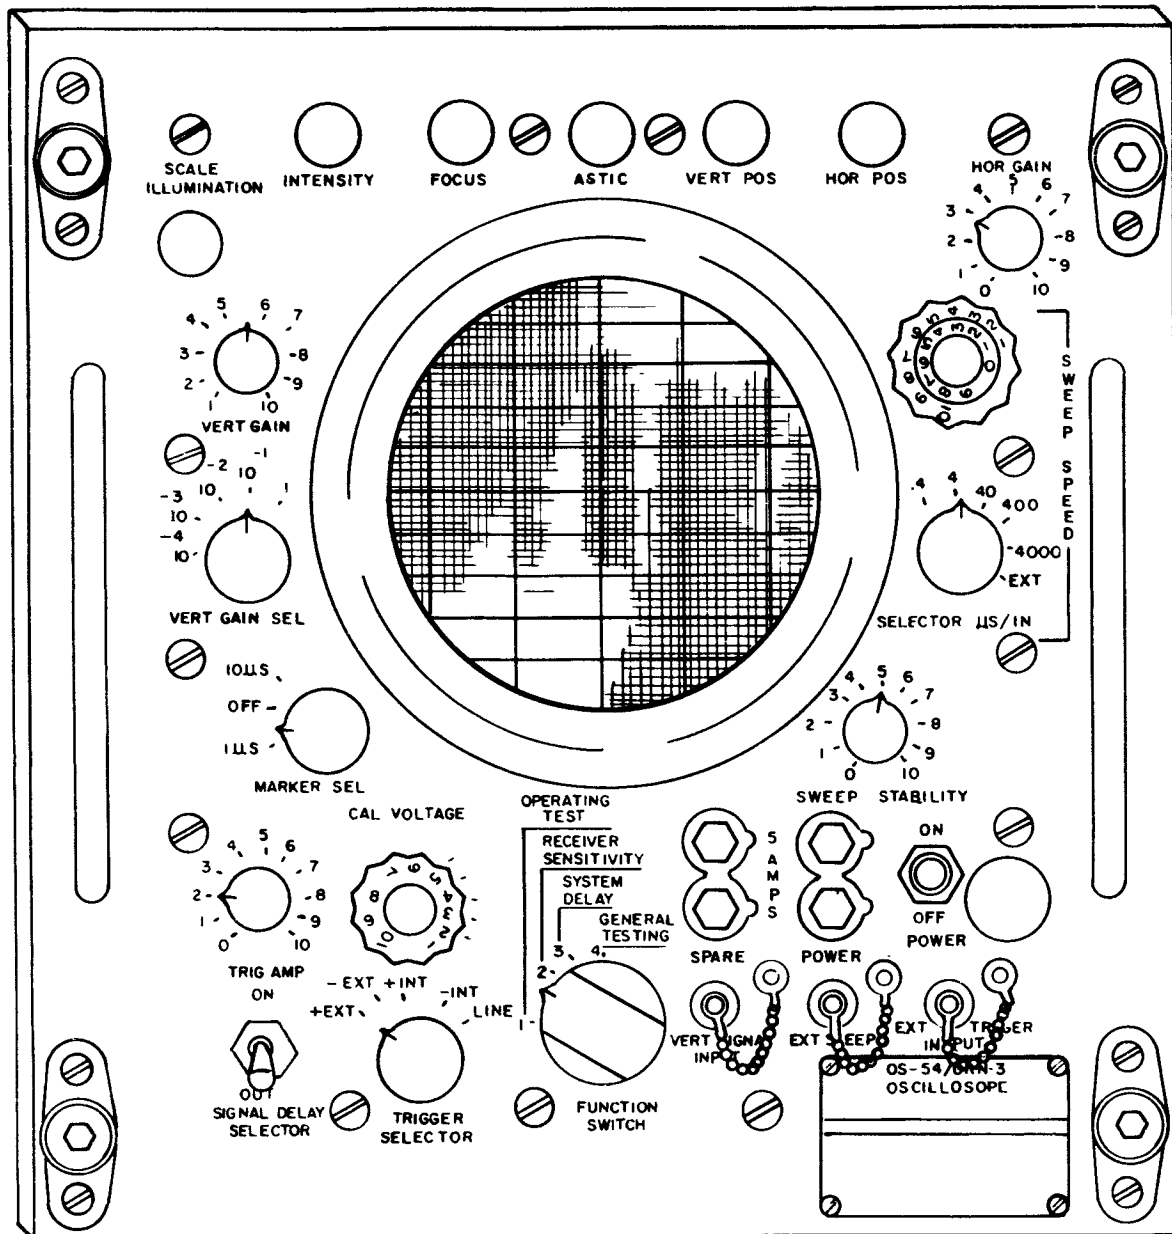
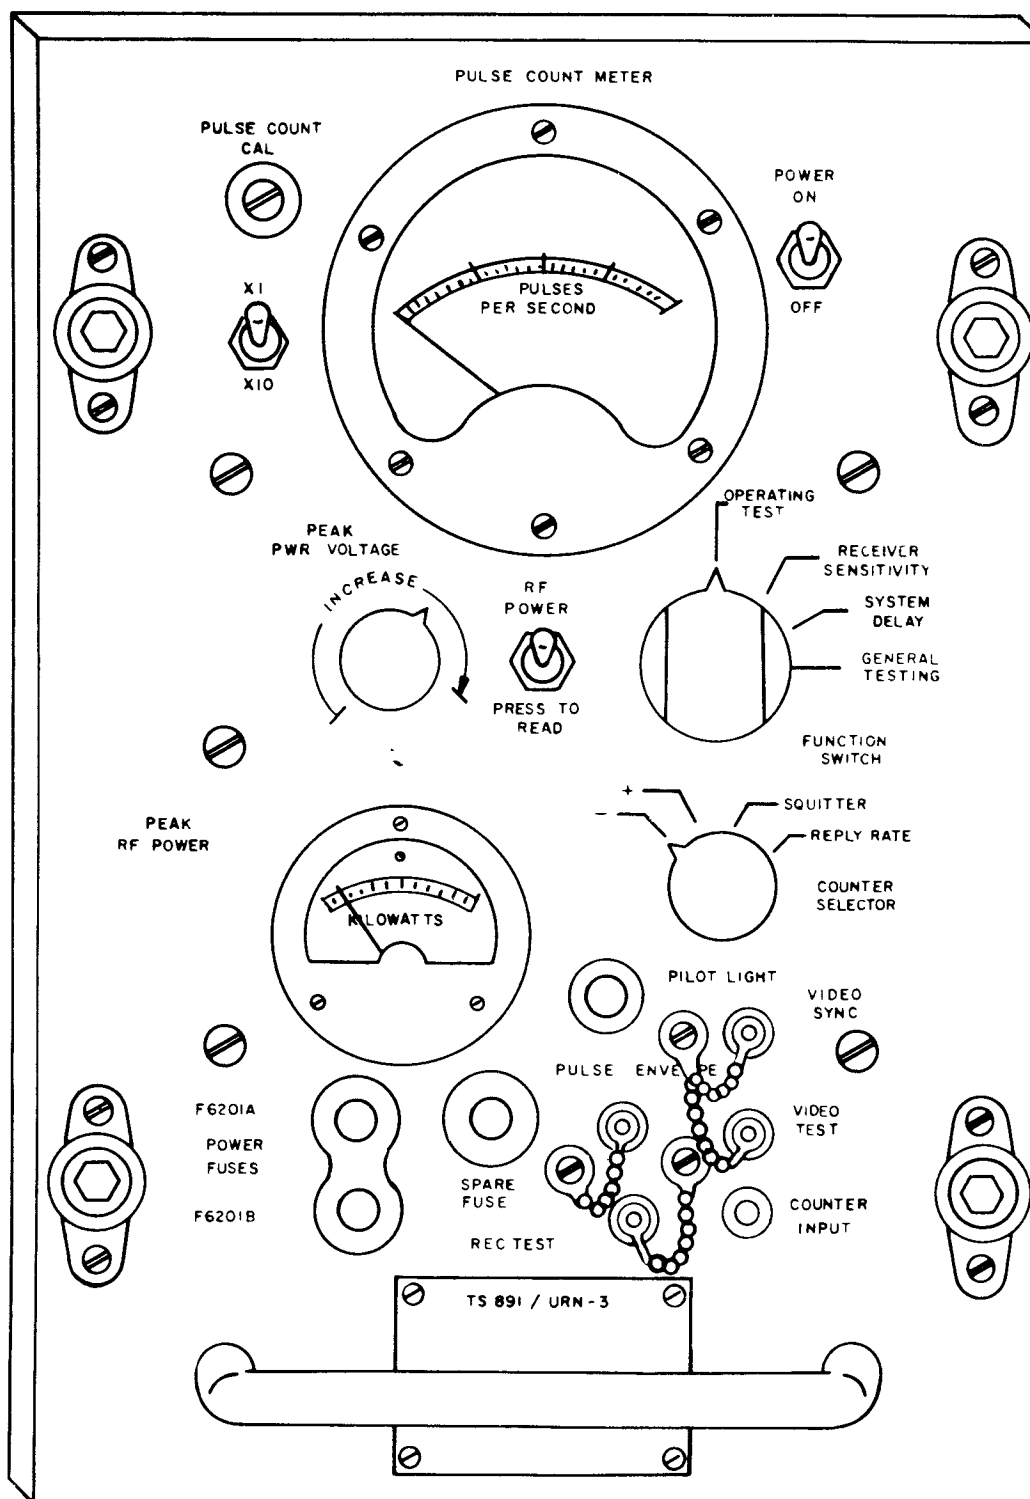

Figure 3-16. Oscilloscope, Front Panel View
Figure 3-17. Power Meter-Pulse Counter TS-891/URN-3, Front Panel View
Step 1. Turn **FUNCTION** switches on Oscilloscope OS-54/URN-3 (figure 3-16) and power meter-pulse counter (figure 3-17) to **OPERATING TEST**.
(8) CHECKING RECEIVER BLANKING TIME.
Step 2. Connect TEST OUTPUT jack on front panel of receiver to oscilloscope EXT TRIG INPUT (figure 3-16). Use positive sync on oscilloscope.